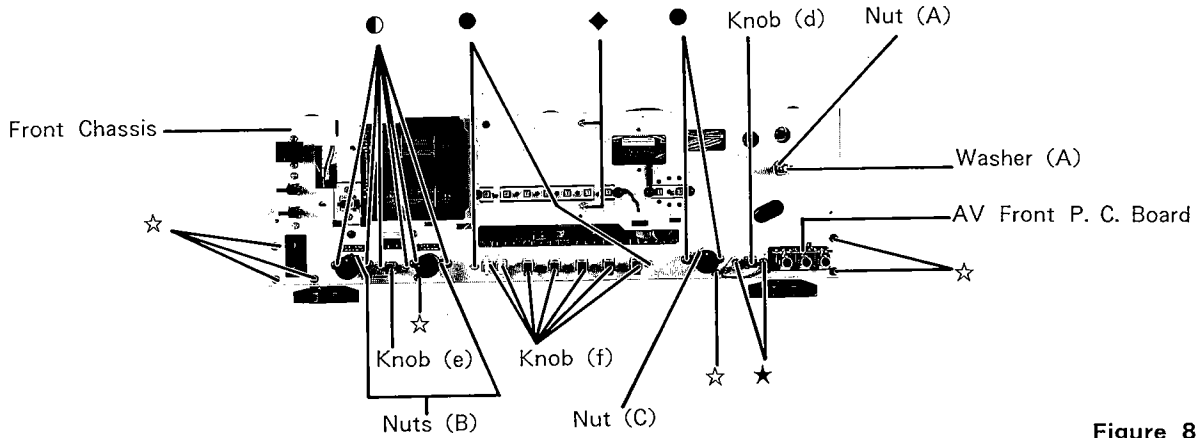

Figure 8
(1) After removal of Front Escutcheon, remove seven screws marked "☆" as shown in Figure 8.
(2) Remove Front Chassis upward and then proceed to items 7-1~7-10.
(1) Remove two screws marked "◆" as shown in Figure 8.
(2) Disconnect all wires from the Driver P. C. Board.
- (1) Remove one nut (A) and one washer (A) as shown in Figure 8.
- (2) Disconnect all wires from the Volume Control P. C. Board.
- (1) Remove one knob (e) and six screws marked "●" as shown in Figure 8.
- (2) Remove two nuts (B) as shown in Figure 8.
- (3) Disconnect all wires from the Tone Control P. C. Board.
- (2) Remove one nut (c) as shown in Figure 8.
- (1) Remove one knob (d) and remove two screws marked "★" as shown in Figure 8.
- (2) Disconnect all wires from the AV Front P. C. Board.